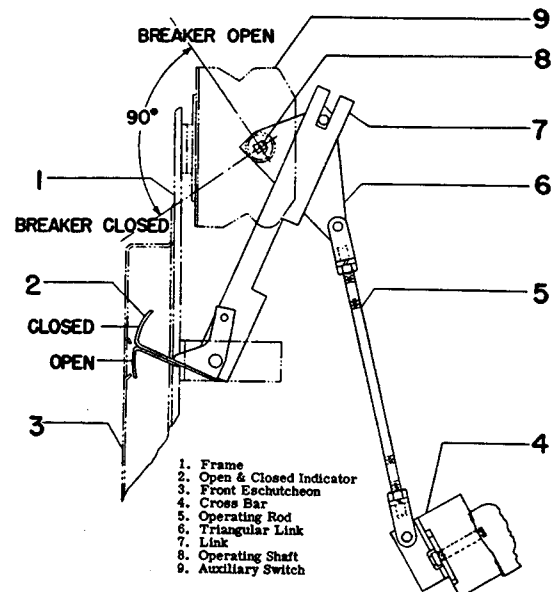
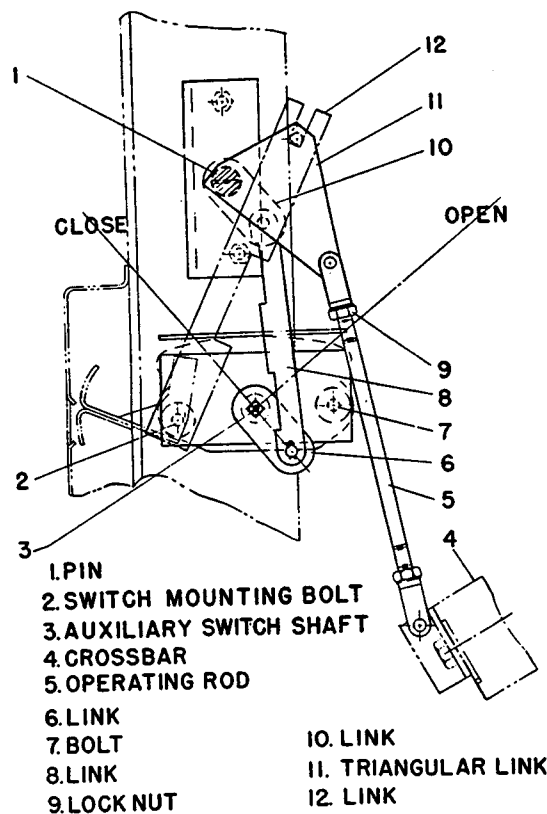

Fig. 18 (0133C9020) Auxiliary switch linkage -standard breaker
Fig. 20 (0133C9019) Auxiliary switch linkage --AKF breakers
**AK BREAKERS (Fig. 18)**
**Replacement (Fig. 18)**
### Adjustment (Fig. 18)
**AKF BREAKERS (Fig. 20)**
**Replacement (Fig. 20)**
2. Remove mounting bolts (2) and (7).
4. Insert new switch with arrow on shaft pointing up and towards the back of the breaker as in Fig. 18.
**Adjustments (Fig. 20)**